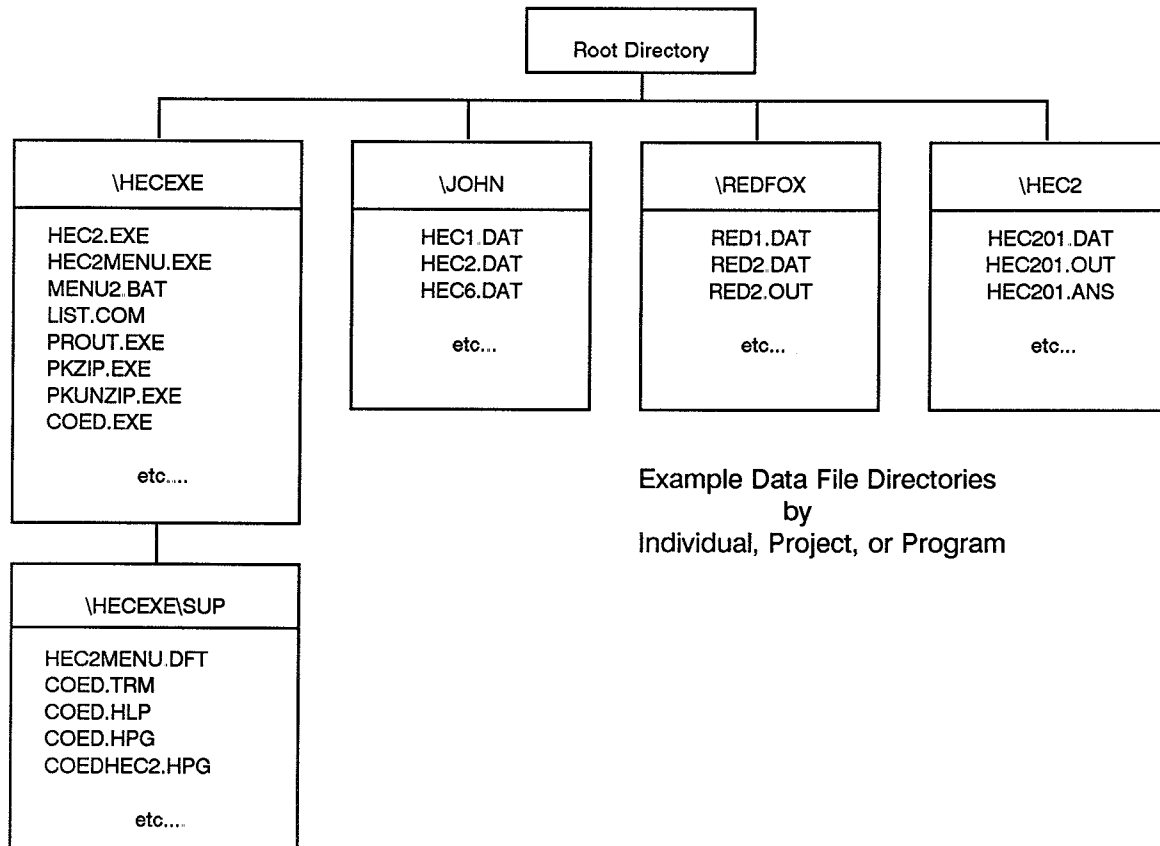

Figure 2
3. The recommended directory configuration that INSTALL2 creates is shown in Figure 2.